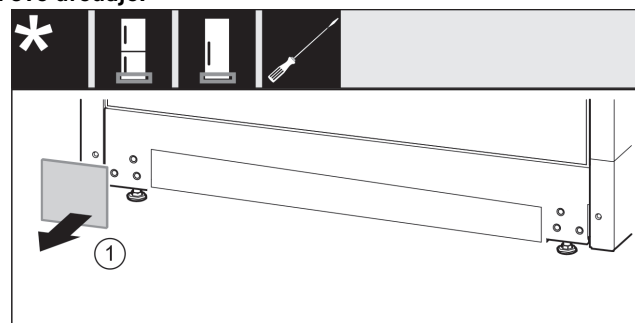

Fig. 45
- ▶ Skinite poklopac Fig. 45 (1).